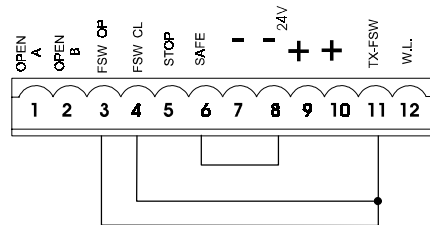

Fig. 26
**N.B. If safety devices are not used, jumper connect the terminals as shown in fig. 26.**
**NB.:** If no opening safety devices are connected, jumper connect inputs FSW OP and -TX FSW (fig. 26).
**NB.:** If no closing safety devices are connected, jumper connect terminals FSW CL and -TX FSW (fig. 26).
**NB.:** If edge safety devices are not connected, jumper connect the SAFE and - inputs (fig. 26).